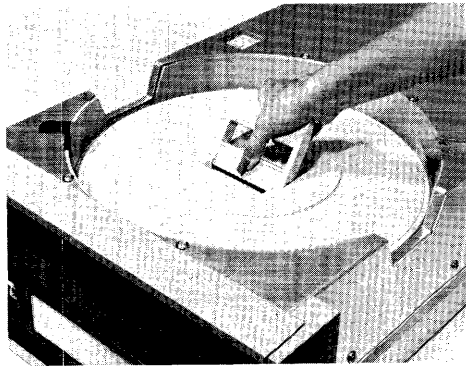

Figure 3-10. Cartridge Unloading, Top Load Models
Refer to Figures 3-10 and 3-11 in conjunction with the following procedure.
- (5) Press the cartridge release/lock (with the thumb) all the way to the side. Holding the cartridge release/lock as shown in Figure 3-10, grip and pull the cartridge handle smartly to the vertical position. The cartridge is now disengaged from the clutch.